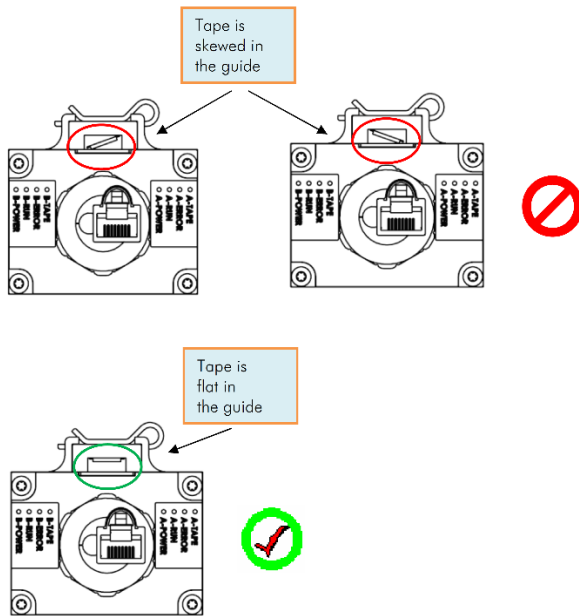
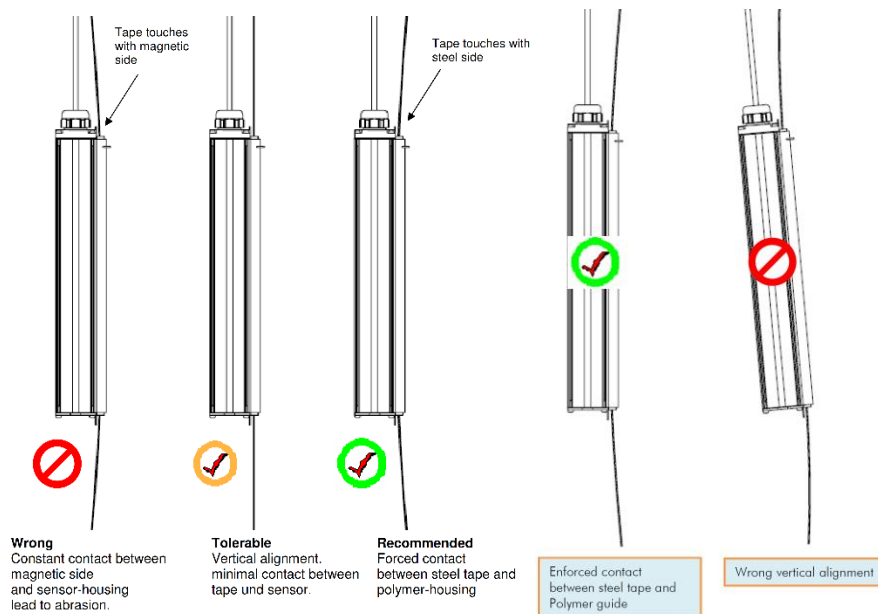

Figure 12: Angular Alignment Guideline
Figure 14: Horizontal Offset Alignment Guideline.
5. Adjust now the distance between sensor head and tape. Up to a travel height of 165ft, we recommend an offset of at least 0.6” (15mm). This will ensure steady contact between steel side of the tape and the polymer guide of the sensor. In higher installations, this distance may be increased (see Figure 14).
Pay attention to the perpendicular alignment of the sensor head. Misalignment will cause wear. (see Figure 14)
7. Check for proper alignment of tape vs. sensor. Any angular offset should be corrected. (See Figure 12-Figure 14 above)
Run an inspection trip the entire length of the hoistway. Observe the system paying attention to the respective positions of tape and sensor. You have achieved an optimal installation if the steel side of the tape is constantly but slightly pressed against the polymer guide of the sensor. At several points in the hoistway, double-check the bottom side of the sensor head. If the sensor is tilted it may look good on top but the tape can still grind along the bottom edge of the sensor. (See Figure 14)